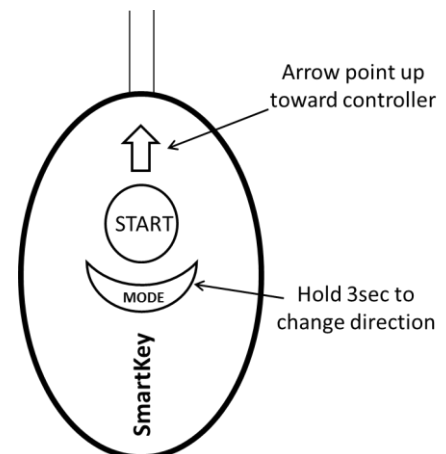

Figure 4: Smart Key
- e. Wait till the arrow on Smartkey is lit and points up toward the controller (see Figure 4).
- e. Wait till the arrow on Smartkey is lit and points up toward the controller. (See Figure 4).